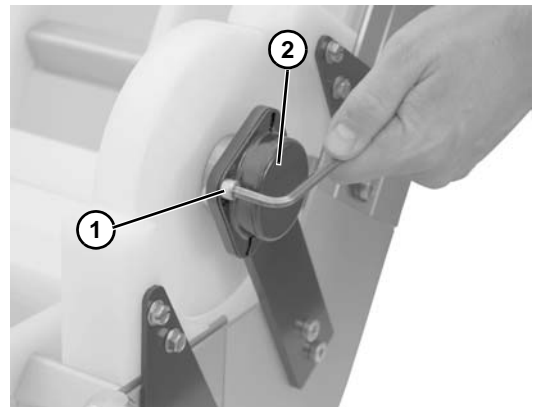

Figure 82
3. Remove two socket head screws (**Figure 82, item 1**) and remove shaft cover (**Figure 82, item 2**). Repeat on opposite side.